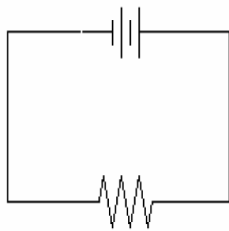

Figure 8a Circuit schematic
1. **Start by building the circuit without any meters.** Where two lines meet, you will need two wires. Although it may seem efficient to initially construct the circuit with the meters included, experience has shown that this method often leads to wiring errors. Figures 8a (schematically) and 8b (in practice) below show a simple circuit with a power supply and a single resistor. The green wire is connected to the positive terminal of the power supply and the white wire is connected to the negative terminal.